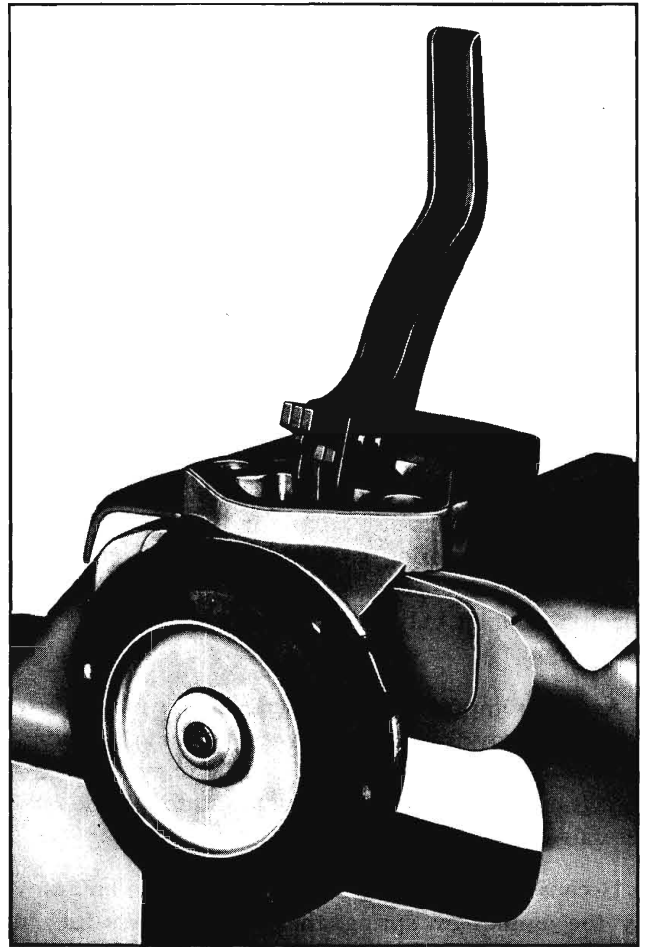

Fig. 6B-73 Diaphragm Assembly Installed
10. Pick up diaphragm and spring as an assembly and push pull rod through oil seal into body. Be sure diaphragm spring is seated in body. Have flat of pull rod parallel to flat of link with the diaphragm flush with the body. With palm of hand, turn the diaphragm 90°, or until flat of pull rod is perpendicular to pump link. This motion should engage the pull rod "eye" with the link hook. If not, repeat this procedure until the connection is made (Fig. 6B-73).